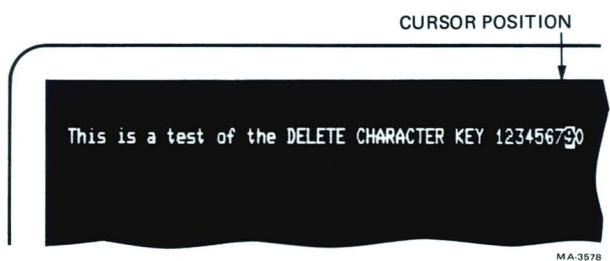

Figure 1-22 Character Deleted
2. Press **DELETE CHAR** once. The character shown by the cursor is deleted from the screen (Figure 1-22). All characters to the right of the deleted character move left one position. A space is inserted at the right end of the line or field. Characters in other fields or on other lines are not affected by **DELETE CHAR**.